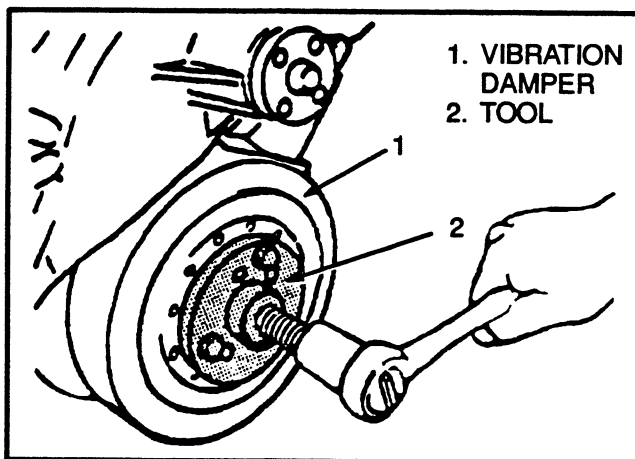

FIGURE 20. VIBRATION DAMPER
2. Remove the crankshaft pulley and vibration damper. Use a tool that pulls on the center of the vibration damper. Do not pull on the outside diameter of the vibration damper. (See FIGURE 20.)